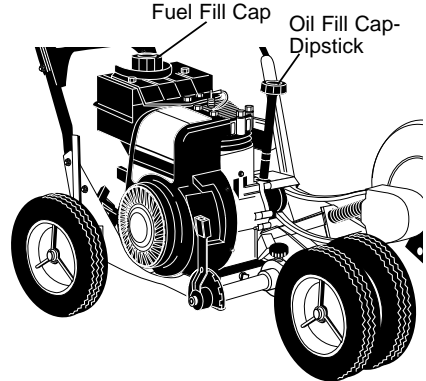

FIG. 5-OP
- Remove the oil fill cap-dipstick and fill the crankcase to FULL line on dipstick. See **Fig. 5-OP**. Check frequently when filling the crankcase.